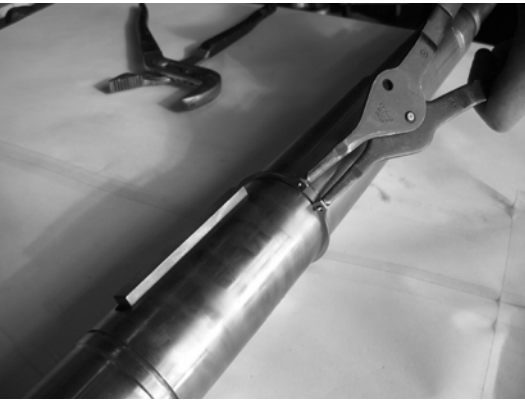

Figure 36: Installing the Impeller Retaining Ring
2. For S.S. shaft with 2", 2.5", 3", 3.5" seals. Install the first impeller retaining ring. (See Figure 36.)